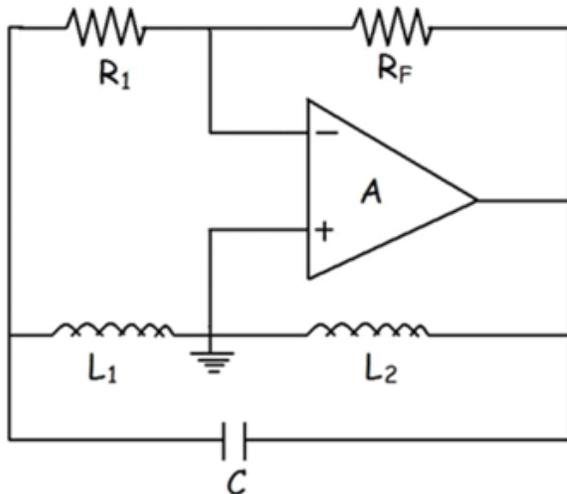

Fig.7-2 Hartly oscillator meet the Barkhausen criteria.
-**Hartly Oscillator:** Fig.7-2 shows the circuit of Hartly oscillator. For a Hartly oscillator to start up and oscillate at proper frequency, the voltage gain (A) of the circuit must